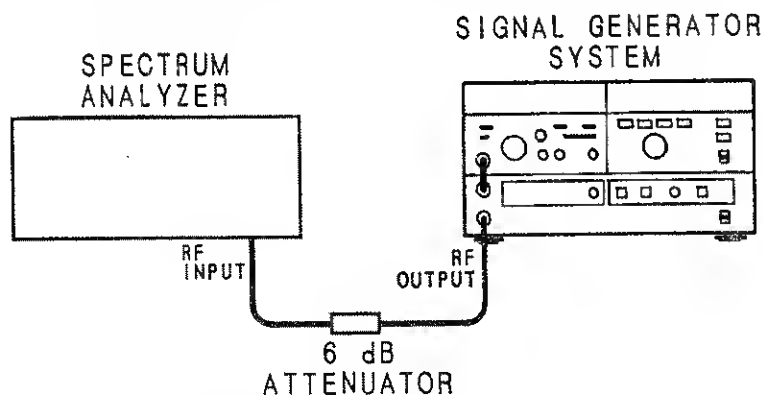

Figure 4-4. On/Off Ratio Test Setup
2. Connect equipment as shown in Figure 4-4.